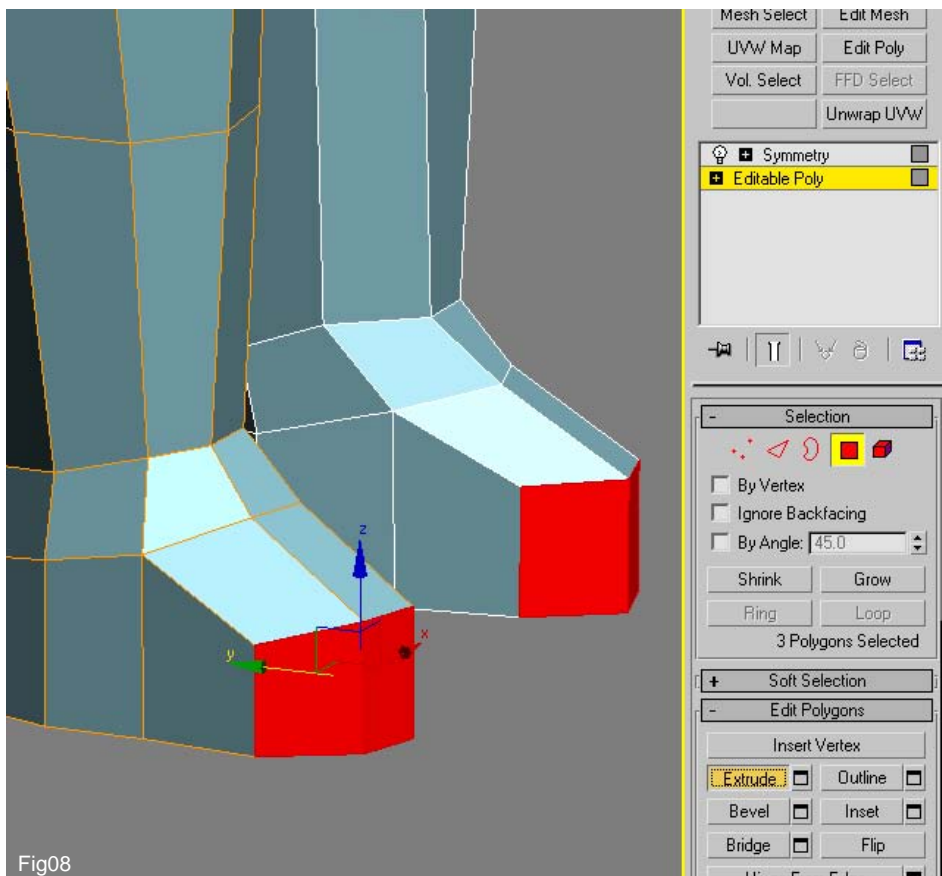

Fig08
8. To start the feet off select the two front poly's and "Extrude" them forward, scaling them down as you do so (Fig08).